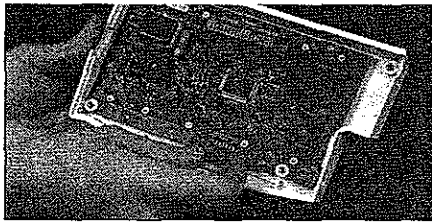

Figure 14
2. Disconnect the membrane switch mylar ribbon cable from the display PCB (see Figure 14).